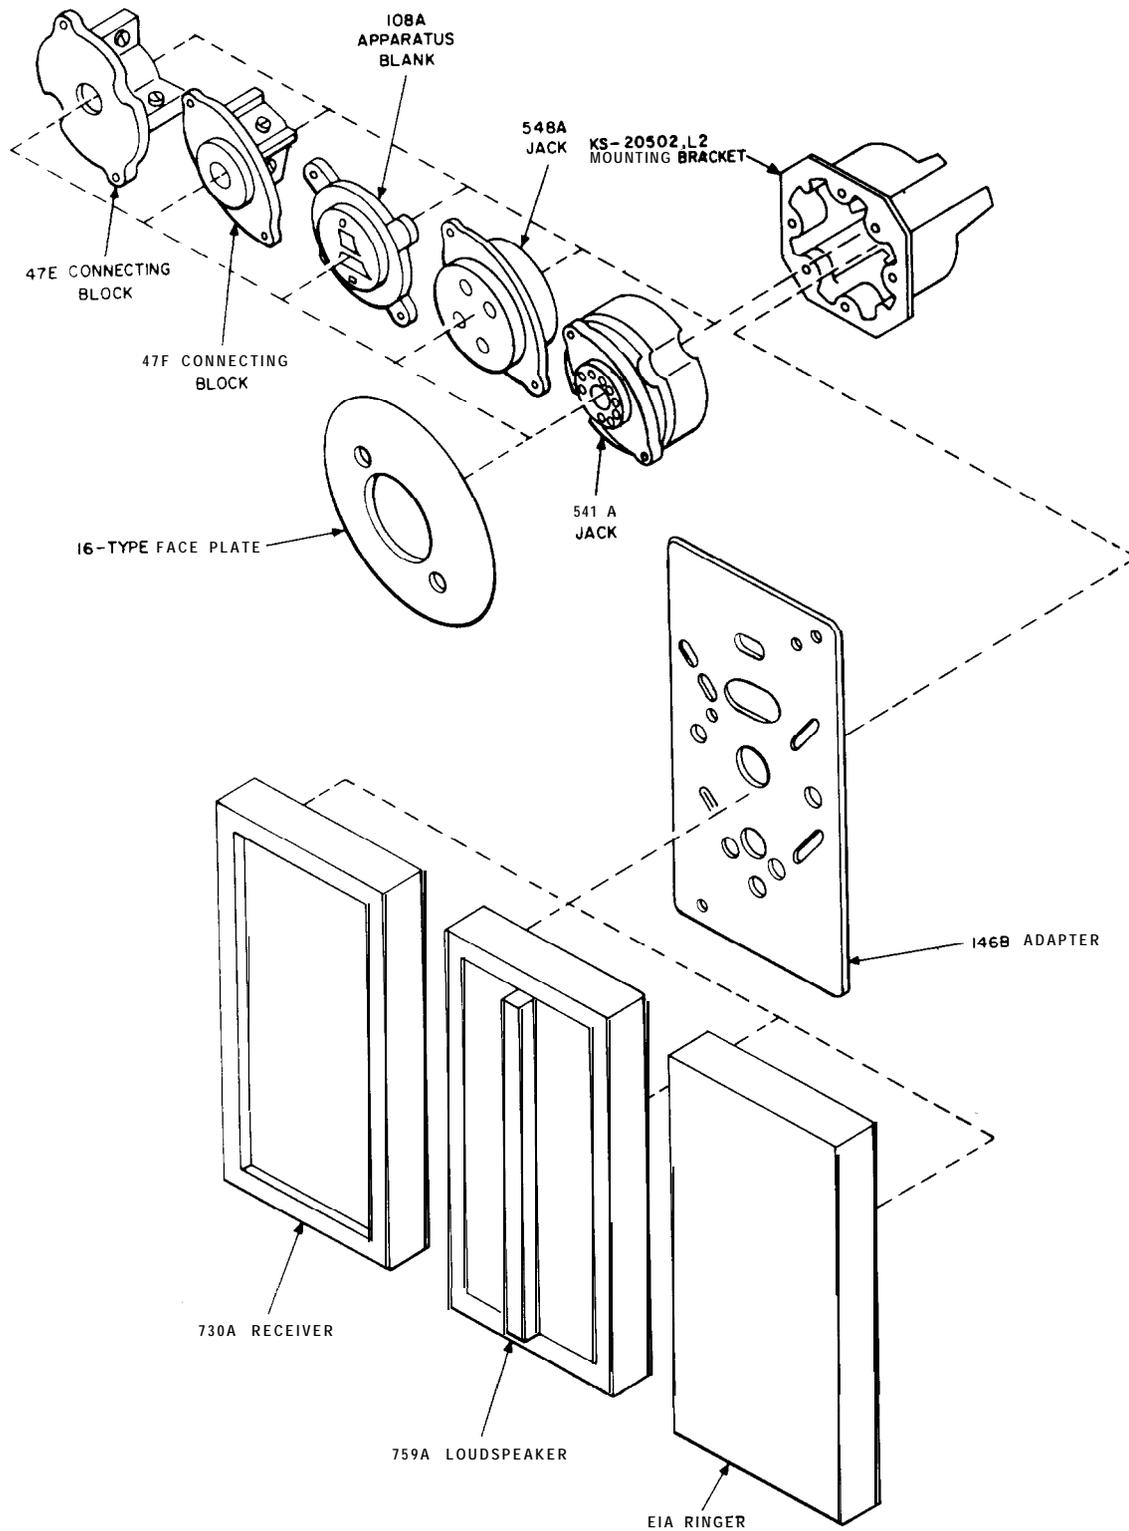

Fig. 3 → **KS-20502**, List 2 Mounting Bracket and Associated Apparatus4
3.03 Install jacks and connecting blocks on bracket (Fig. 3) as follows:
3.04 Install associated apparatus (Fig. 3) as follows: